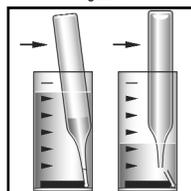

Figure 2
For CHEMetrics photometers, follow the **Setup and Measurement Procedures** in the operator's manual. For spectrophotometers, set the wavelength to 520 nm. A sealed ZERO ampoule is supplied in this kit for zeroing when the sample is colorless and not turbid. For improved accuracy with colored or turbid samples, Sample Zeroing Accessory Pack, Cat. # A-0503 is recommended. Using the sample cup, snap the tip of the A-0503 ampoule in the sample. (see figure 2 below). Invert the ampoule to mix. Dry the ampoule and use it in place of the supplied ZERO ampoule to zero the instrument.
2. Place the Vacu-vial ampoule, tip first, into the sample cup. Snap the tip. The ampoule will fill leaving a bubble for mixing (fig. 2).